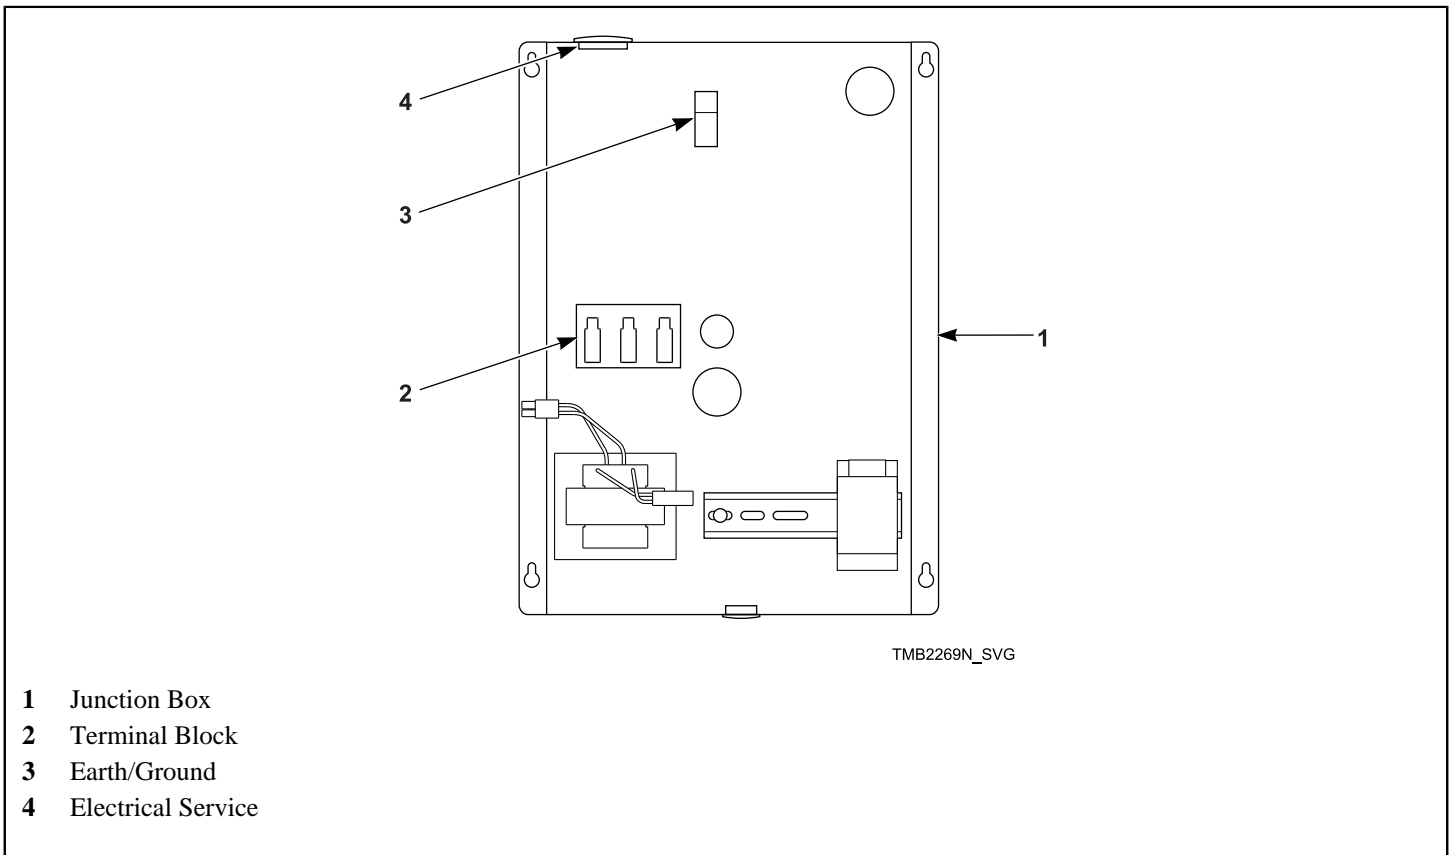
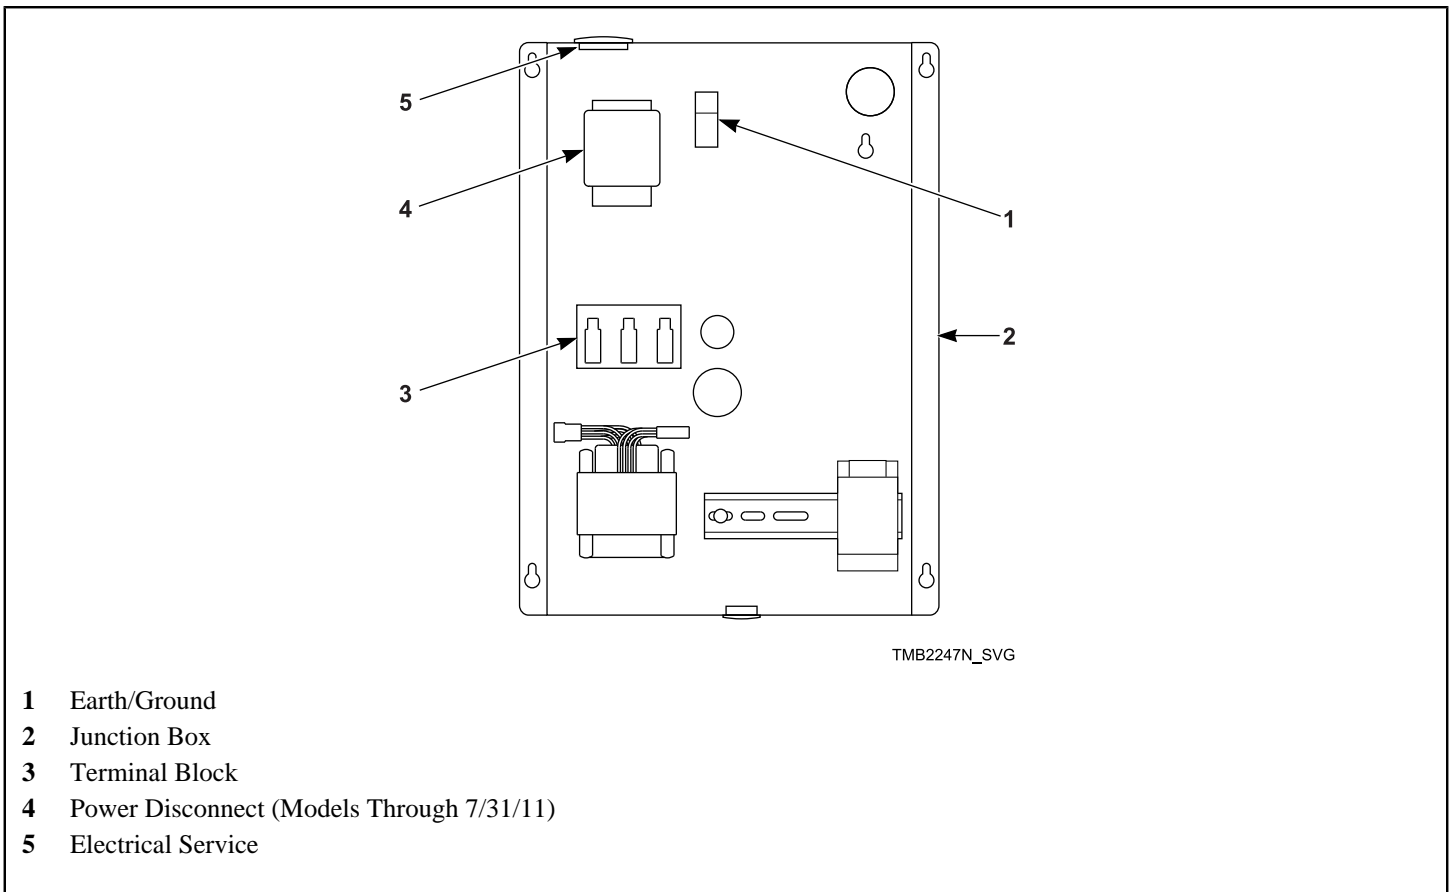
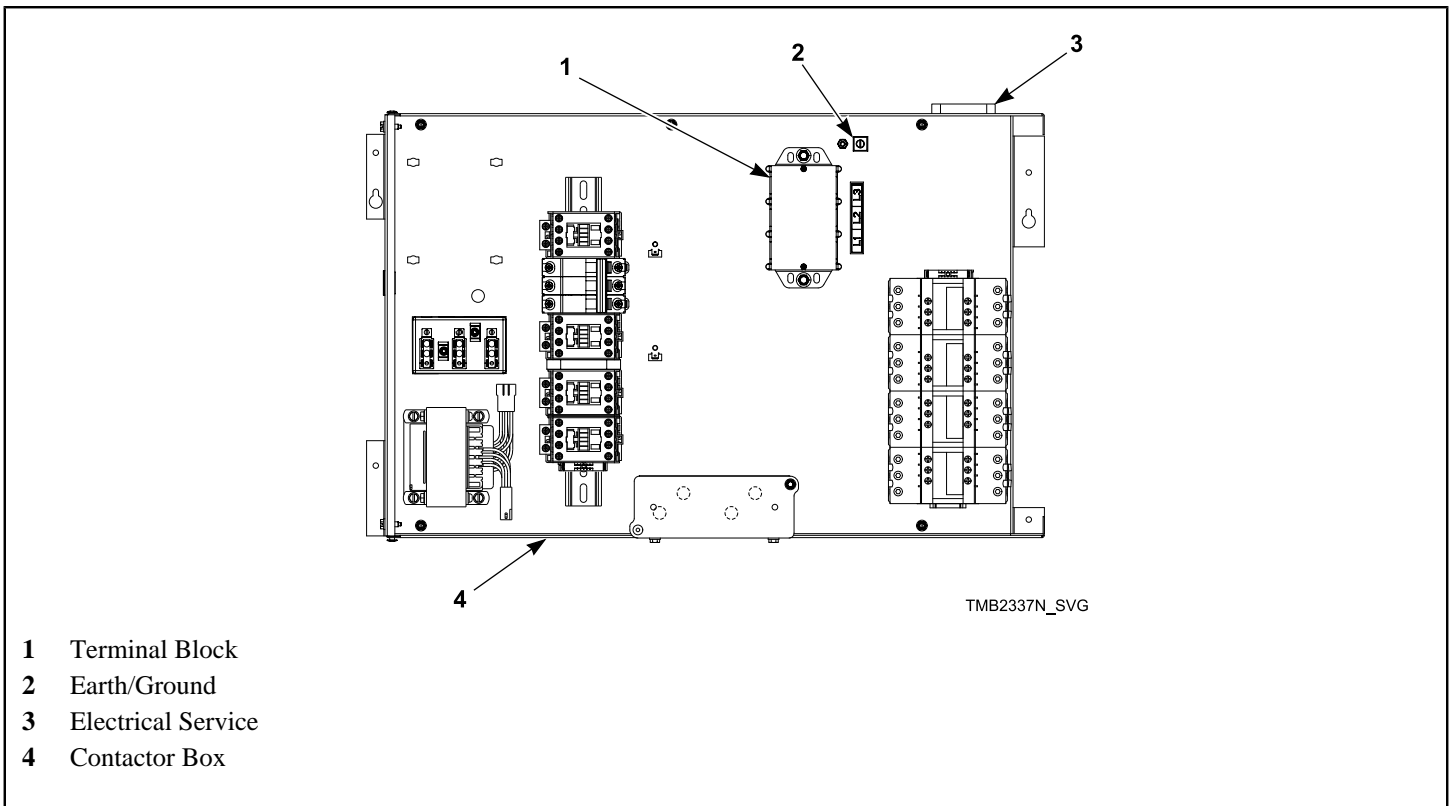

Figure 17 Ground and Terminal Block Locations for Non-CE Gas and Steam Models
Figure 18 Ground and Terminal Block Locations for CE Gas and Steam Models
Figure 19 Ground and Terminal Block Locations for Electric Models
2. Connect the conduit-encased leads to the disconnect switch, or circuit breaker. Connect the wire leads to the appropriate labeled terminal on the terminal block. The ground wire must be connected to the ground connection as shown in *Figure 17 Ground and Terminal Block Locations for Non-CE Gas and Steam Models*, *Figure 18 Ground and Terminal Block Locations for CE Gas and Steam Models* or *Figure 19 Ground and Terminal Block Locations for Electric Models*.